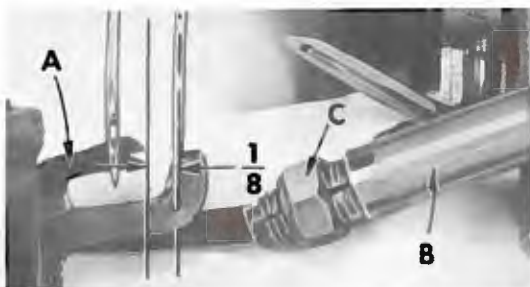

Fig. 4
Insert the lower spreader (A, Fig. 4) into bar (B). With lower spreader at left end of its stroke, set spreader point $\frac{1}{8}$ inch from centerline of right needle (Fig. 4) using gauge No. 21225- $\frac{1}{8}$. Do not have lower spreader deflecting needle. Do not lock nut (C) because the spreader point will have to be set to the needle scarf after the rear needle guard has been assembled and positioned. (See paragraph under "Final Setting of Lower Spreader").
is obtained by rocking the spreader forward or backward around its shank. Recheck the $\frac{1}{8}$ inch spreader gauge setting and tighten nut (C, Fig. 4).